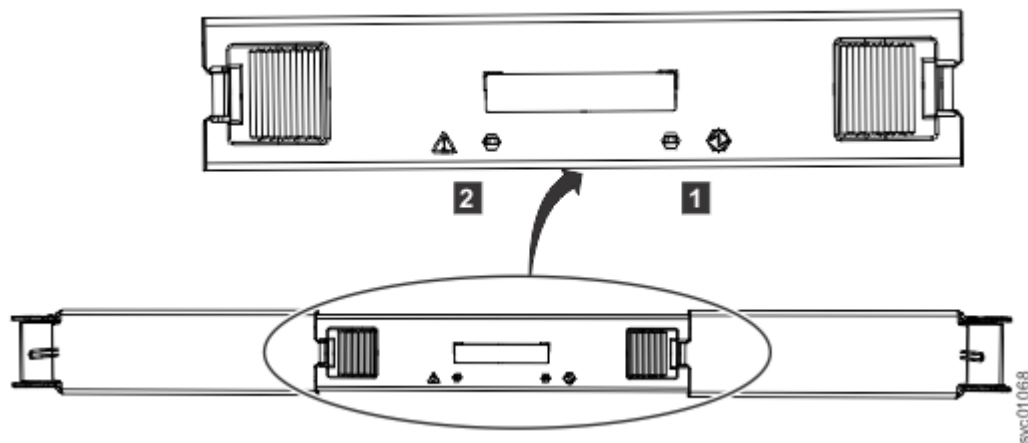

Figure 87. LEDs on a secondary expander module
2. Identify the secondary expander module to be replaced; Figure 87 on page 71 shows the LEDs on top of a secondary expander module.